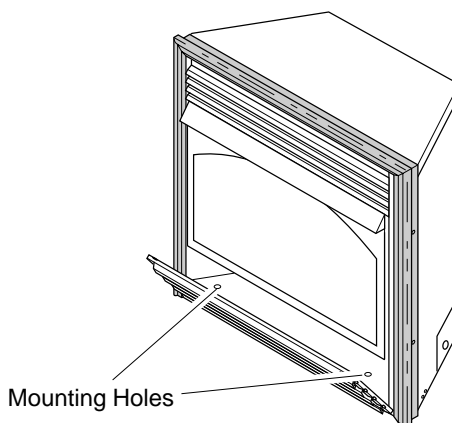

Figure 13 - Floor/Hearth Mounting Holes
6. Attach fireplace to floor using wood screws through holes in bottom of base. Open lower louver to locate screw holes (see Figure 13).